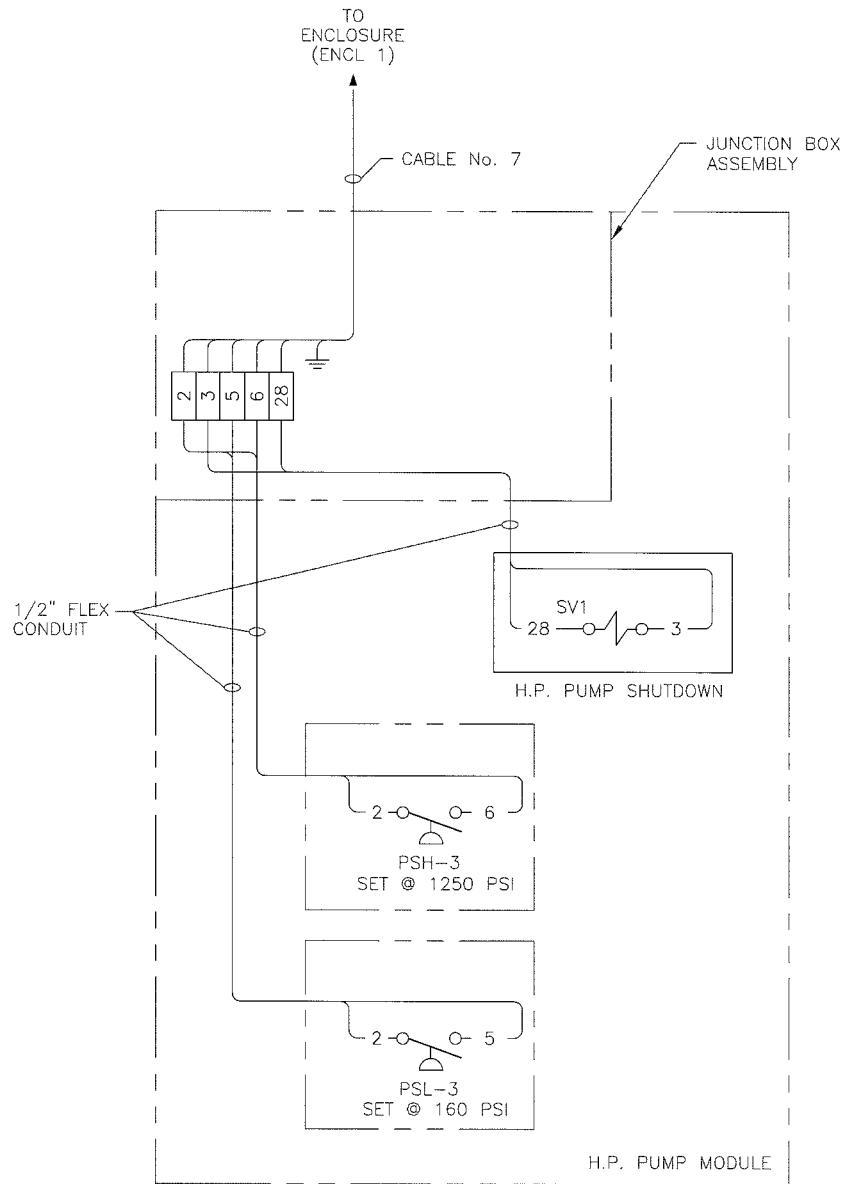

Figure 4. HP Module Wiring Diagram.
4. Connect wiring to terminals on terminal block. Reuse the wire number tags from the old wires. Refer to Figure 4.